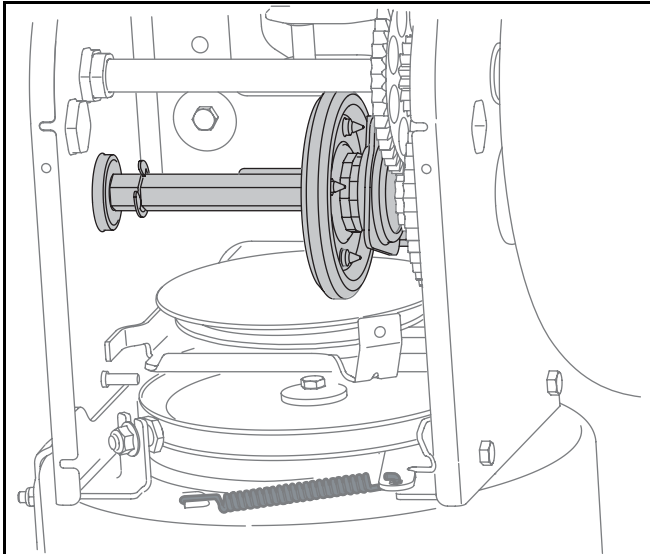

Figure 5
- Apply a light coating of an all-weather multi-purpose grease to the hex shaft. See Figure 5.